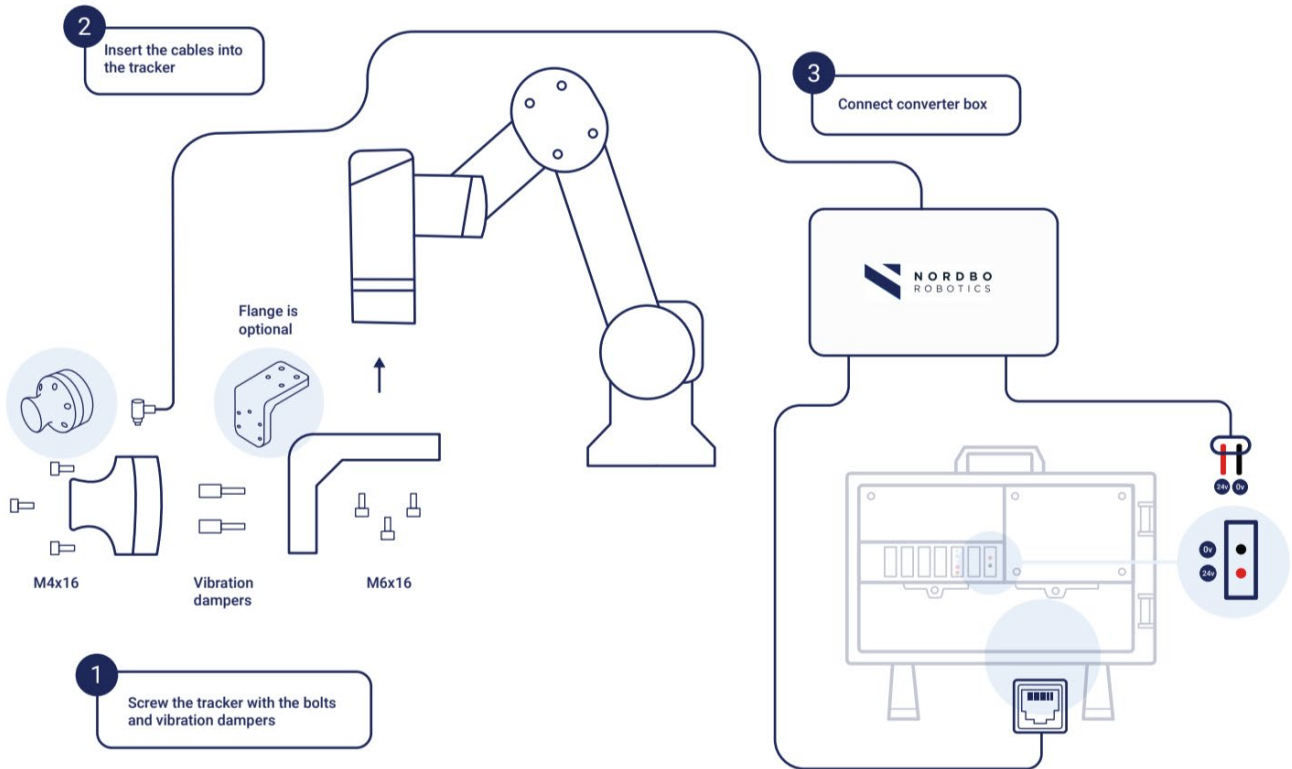

Figure 2 - The Mimic FT Tracker Setup
**Figure 2** depicts the complete hardware setup of the FT Tracker.